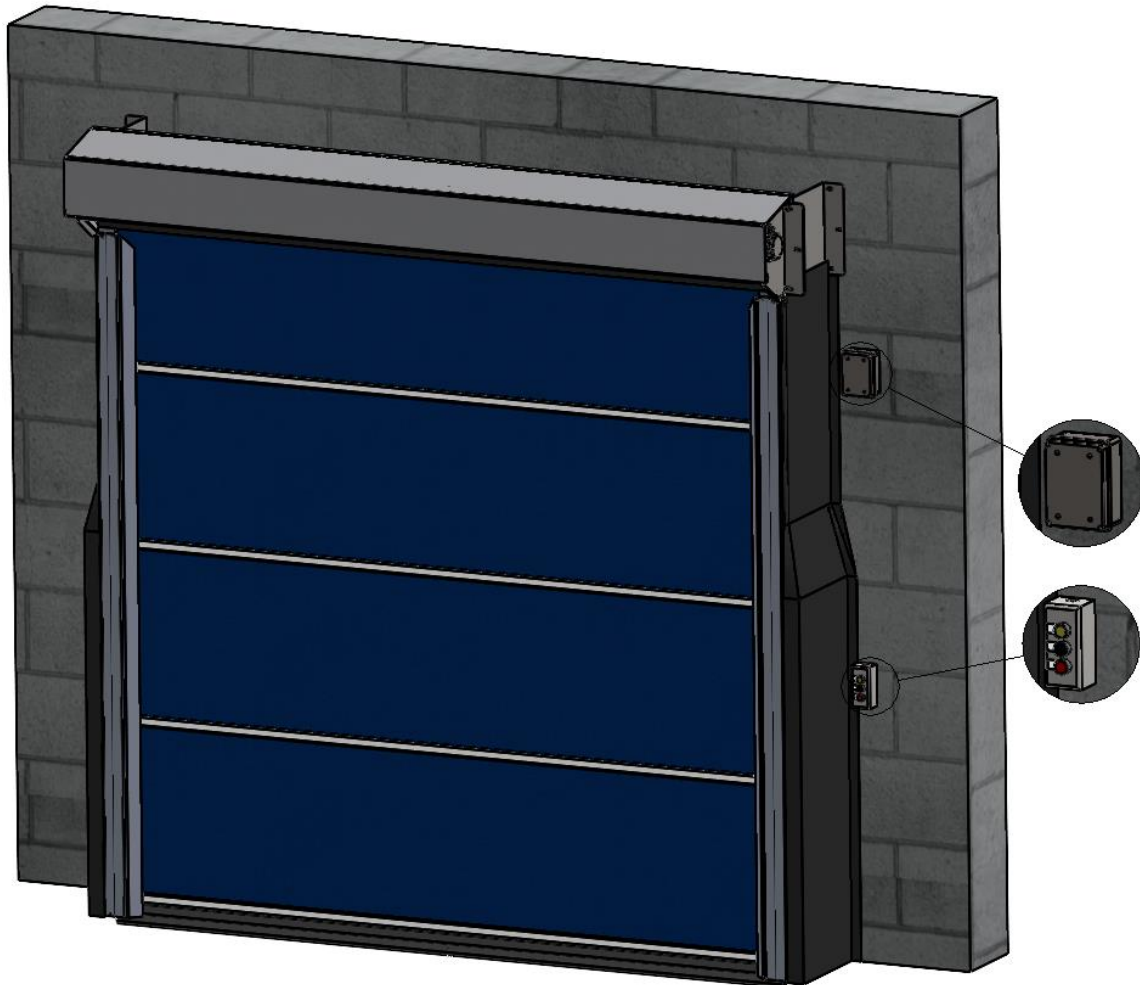

Figure 13 CONTROL BOX LOCATION
3. Have a qualified Electrician mount the Switch Control Box, route, and connect all wiring before applying power to the Door Assembly. (Figure 13 CONTROL BOX LOCATION)